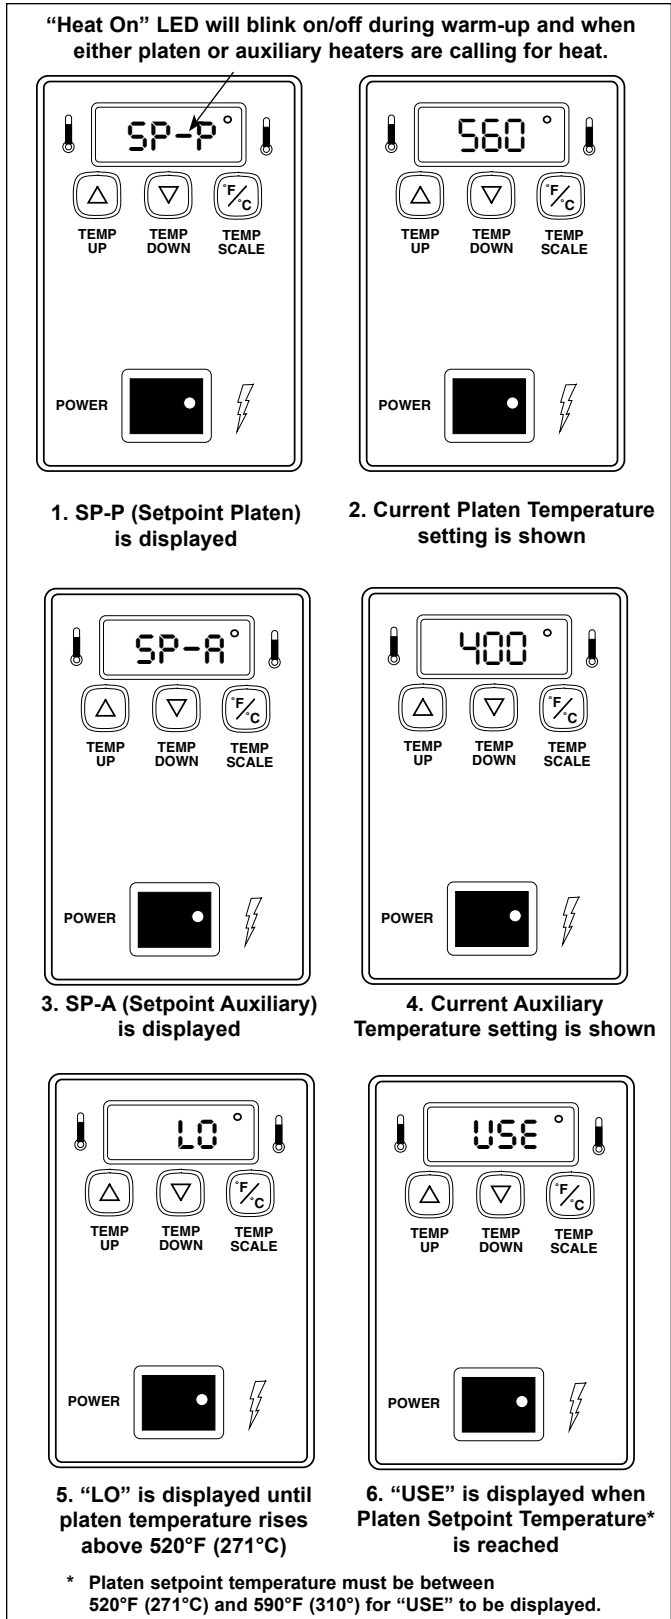

Figure 4. Temperature Power Up Sequence
NOTE: The temperature display (Figure 4) will flash "LO" until preset operating temperature is reached. When the toaster approaches the preset temperature, "USE" will appear in the temperature display and the unit is ready to toast buns.
1. Turn power switch on and wait for temperature display to finish the power up sequence (Figure 4).
1. Turn power on and wait for temperature display to finish the power up sequence (Figure 4, #3 & 4).
2. Press and hold both TEMP UP and TEMP SCALE keys until the display flashes the auxiliary setpoint temperature, then release (Figure 4, #3)